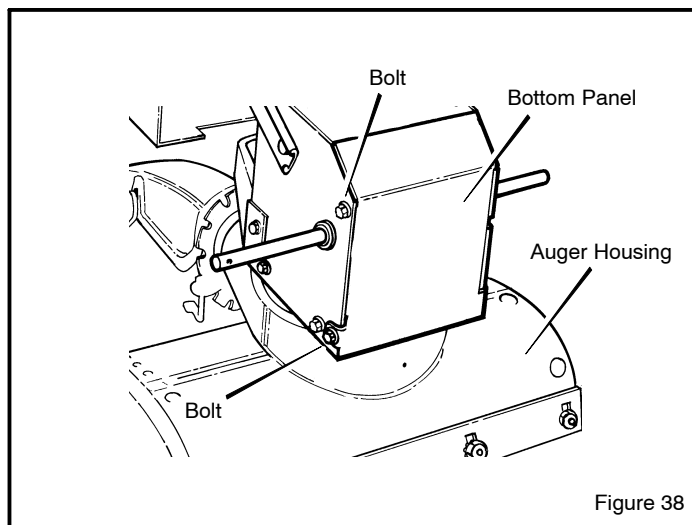

Figure 38
2. Loosen the **bolts** on each side of the **bottom panel** (see Figure 38).
18. Install the **bottom panel** (see Figure 38).
10. Install the **bottom panel** (see Figure 38).